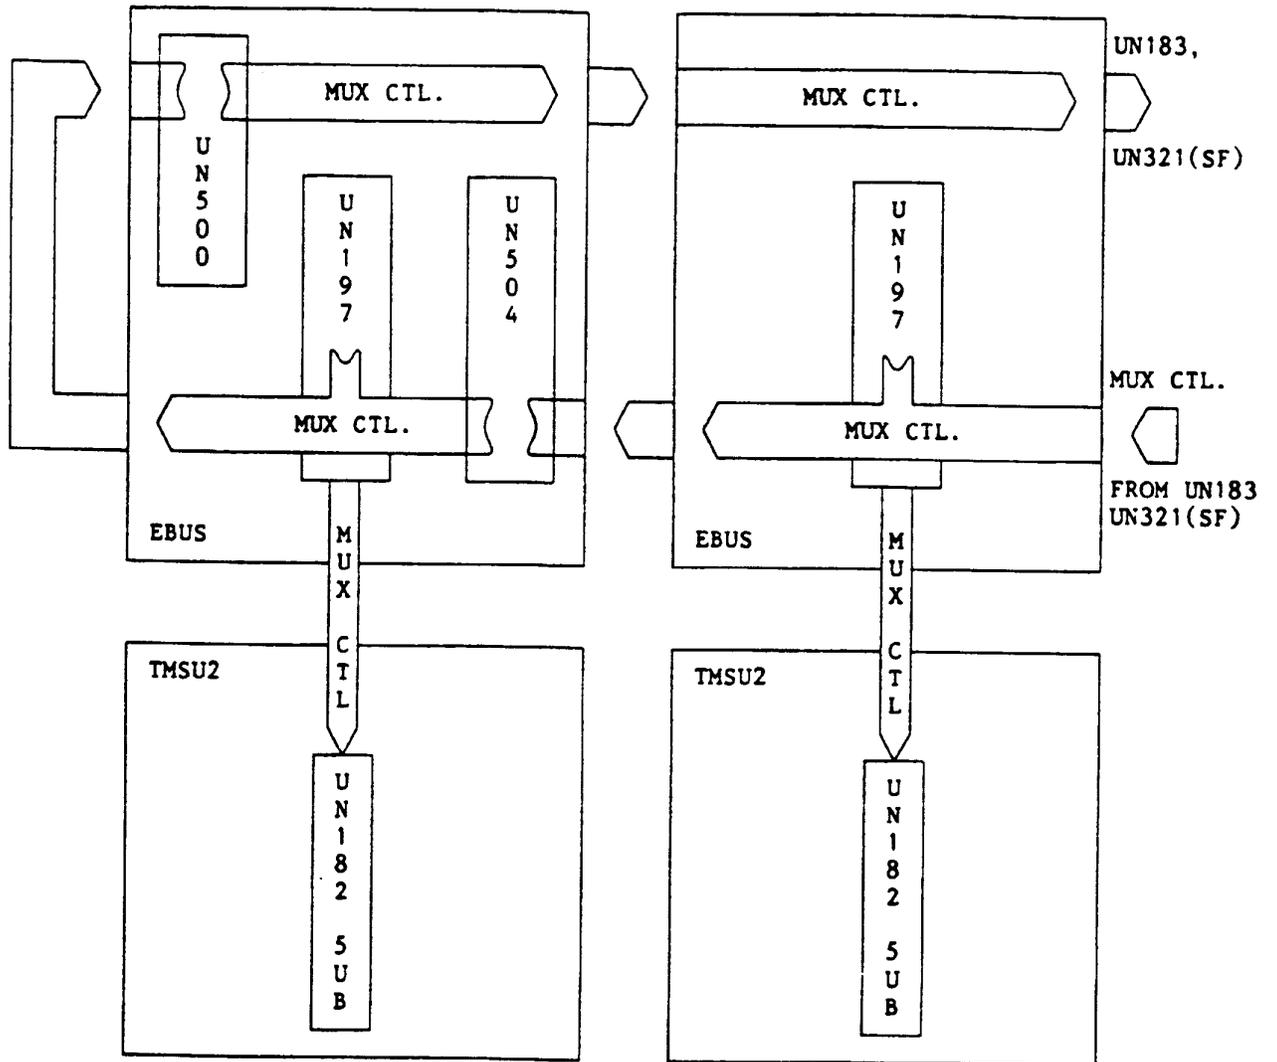

Figure 5. MUX Control
2.07 MUX Control is put on the EBUS by the UN183 TMS Interface Board via coaxial ribbon cable and is tapped from the receive side of the bus by the UN197 Mux Control Board (Figure 5). The mux control leads are cabled from the UN197 to the UN182 in the TMSU.